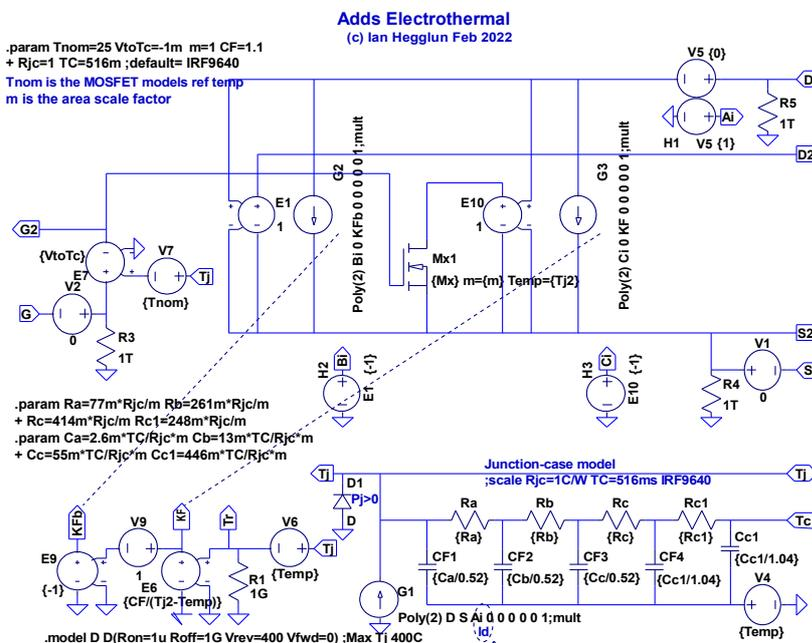

Figure A2.1. Internal circuit of the MthB subcircuit
The MthB subcircuit **Figure A2.1** is similar to the QthB subcircuit but the MOSFET version does not need gate current interpolation. The MthB subcircuit uses two Poly(2) source multipliers (G2,G3) for **linear interpolation** of drain currents between two isothermal MOSFETs: